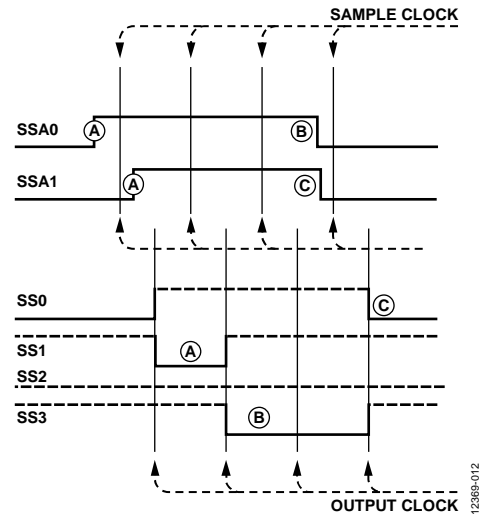

Figure 12. Mux Select Timing
Figure 12 illustrates the behavior of the SSA0 and SSA1 channels. This diagram assumes that  $\overline{MSS}$  is low and that SS0, SS1, SS2, and SS3 are pulled up.
The following details the mux select timing shown in Figure 12:
- Point C: This point in Figure 12 shows a clean transfer between SS3 being active and SS0 being active. The mux was designed to eliminate any short duration metastable states between any two selected outputs.